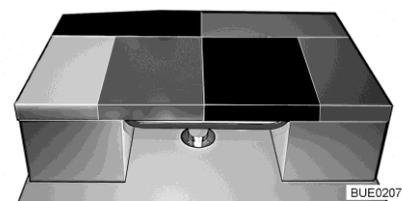

Fig. 157 After conversion
- Place the additional cushion on the table (see Fig. 157).